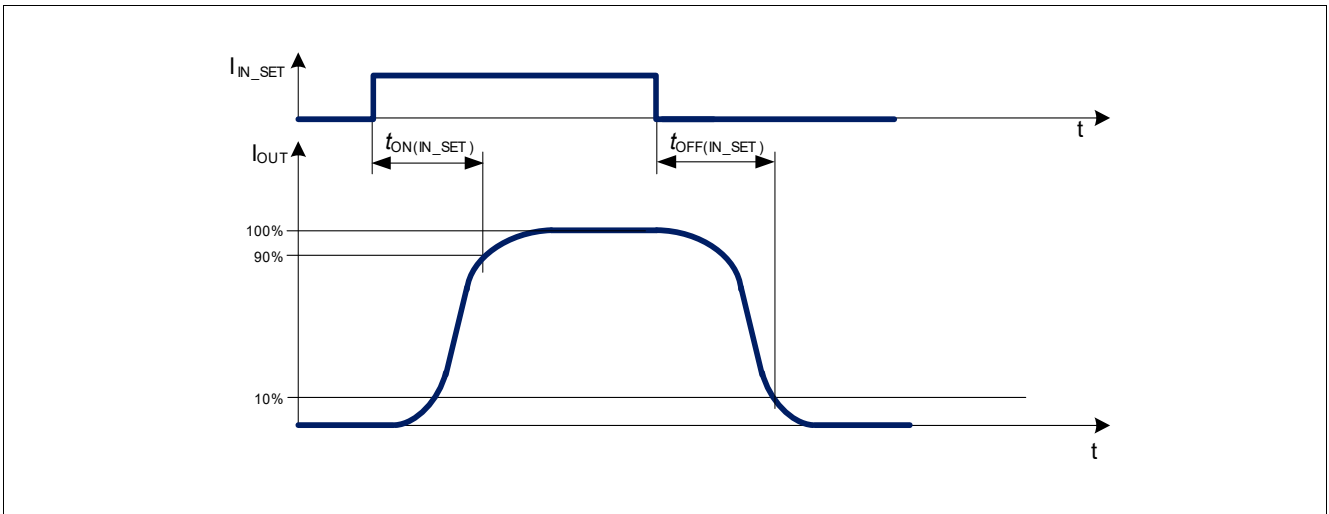
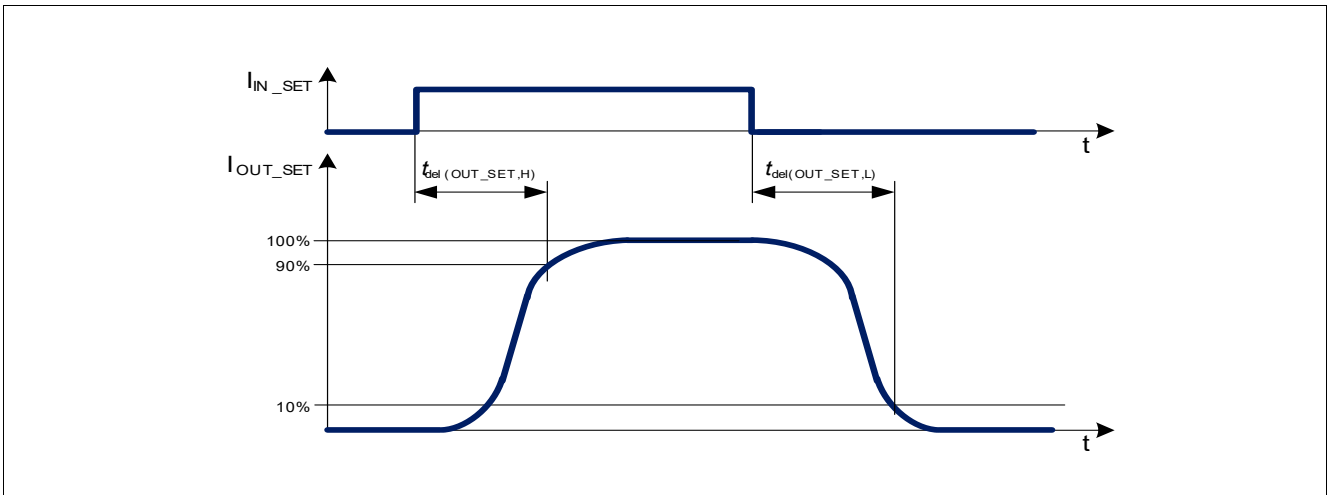
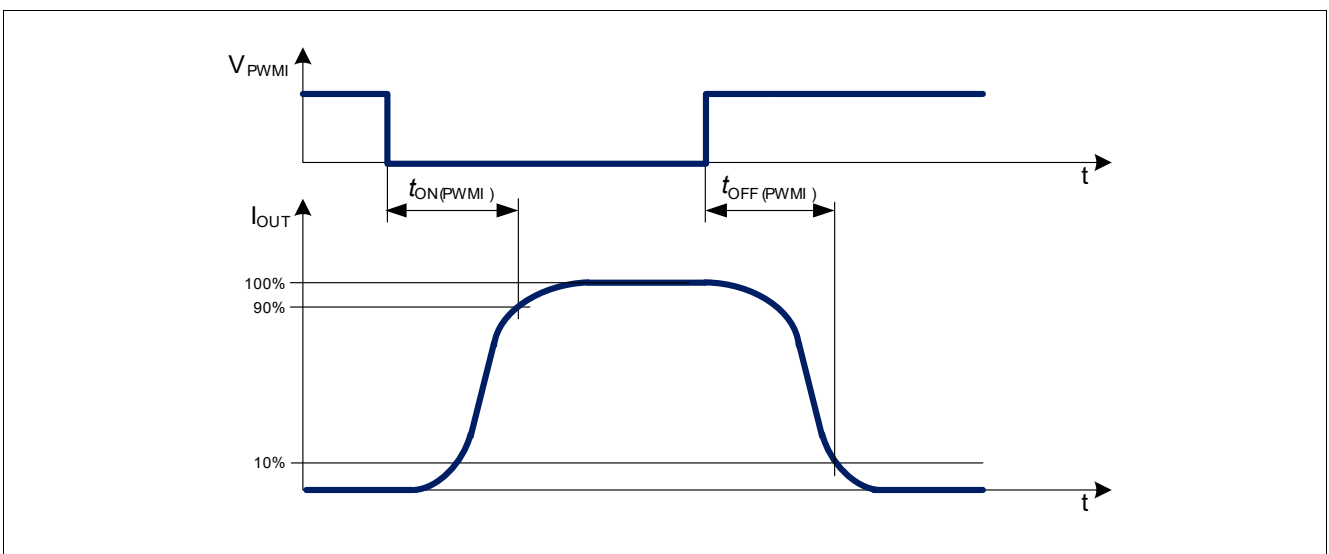

Figure 12 IN_SET turn on and turn off delay timing diagram
Figure 13 IN_SET to OUT_SET activation and deactivation delay timing diagram
Figure 14 PWMI turn on and turn off timing diagram
In the following diagrams (Figure 12, Figure 13, Figure 14) the influences of different driving inputs on output activation delays are shown.
- 2) Refer to Figure 12
- 3) Refer to Figure 13
- 4) Refer to Figure 14